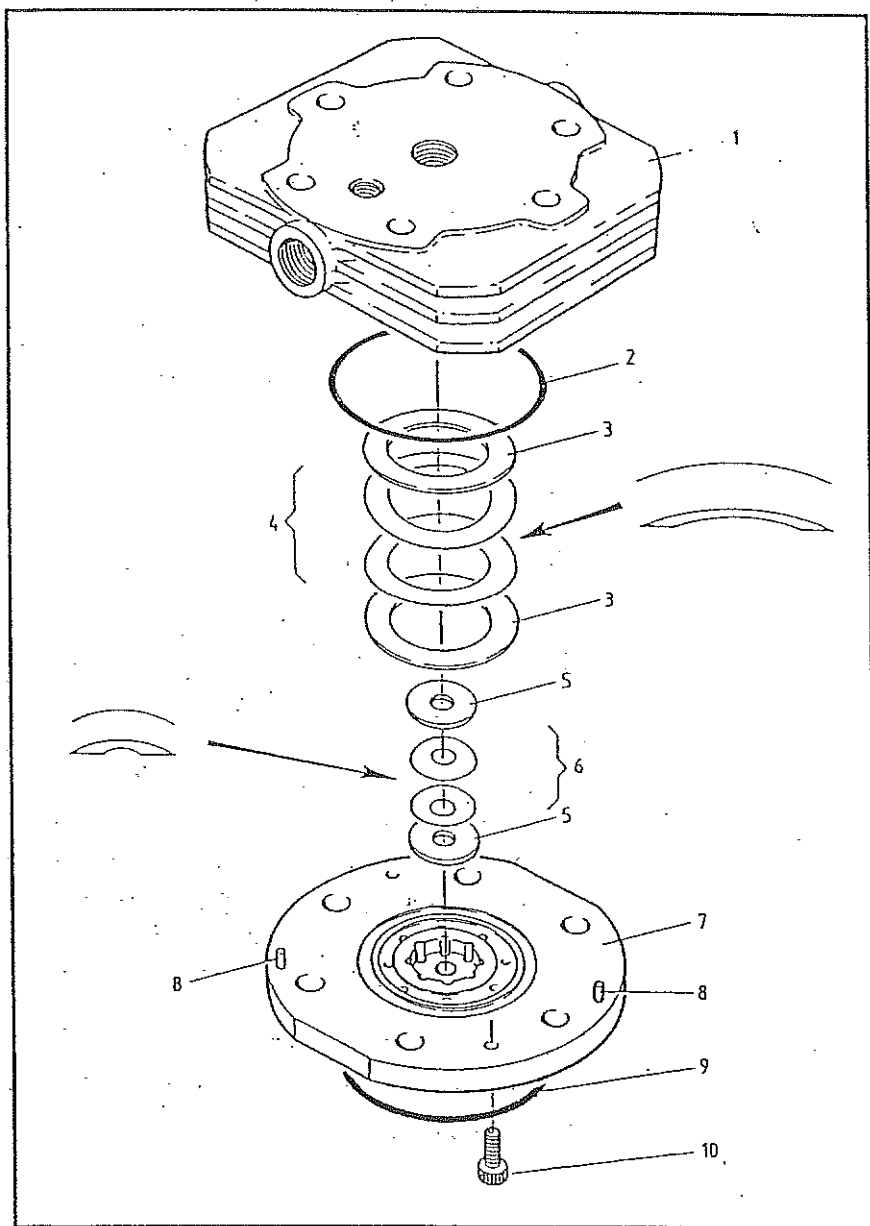

FIGURE 13-6 THIRD STAGE VALVE
THIRD STAGE SUCTION AND DELIVERY VALVE/CYLINDER HEAD ASSEMBLY OVERHAUL (FIGURE 13-6)
Invert base (7) and fit plate (5) followed by springs (6) which should be arranged as shown in Figure 13-6. Fit suction plate (5).
Invert cylinder head (1), and fit plate (3), followed by springs (4) which should be arranged as shown in Figure 13-6. Fit delivery plate (3) and place new "O"-ring (2) into the cylinder head groove. Ensure the delivery plate (3) is centralized. With a small steel ruler, or similar thin-bladed implement, placed across base (5) to retain the suction and fit to the cylinder head. Correct location of the base is assured by the offset pins (8) and (8) which engage with corresponding holes in the cylinder head.